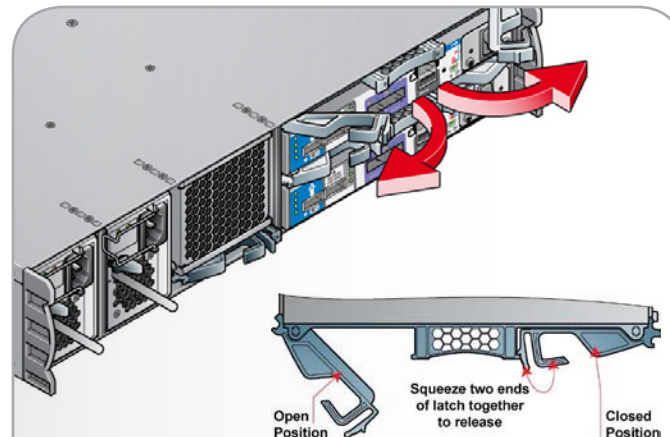

Fig. 81 - Unlatching the RAID Controller Module
3. Pull the latches outward to eject the module out of the enclosure (Fig. 81).